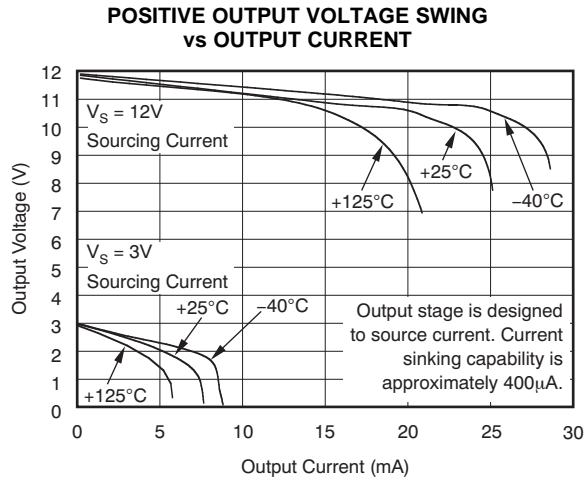

Figure 7.
(1) Total output error includes effects of gain error and  $V_{OS}$ .
(2) For details on this region of operation, see the Accuracy Variations section in the Applications Information.
(3) See Typical Characteristic curve *Output Swing vs Output Current*, Figure 7.
(4) Specified by design.